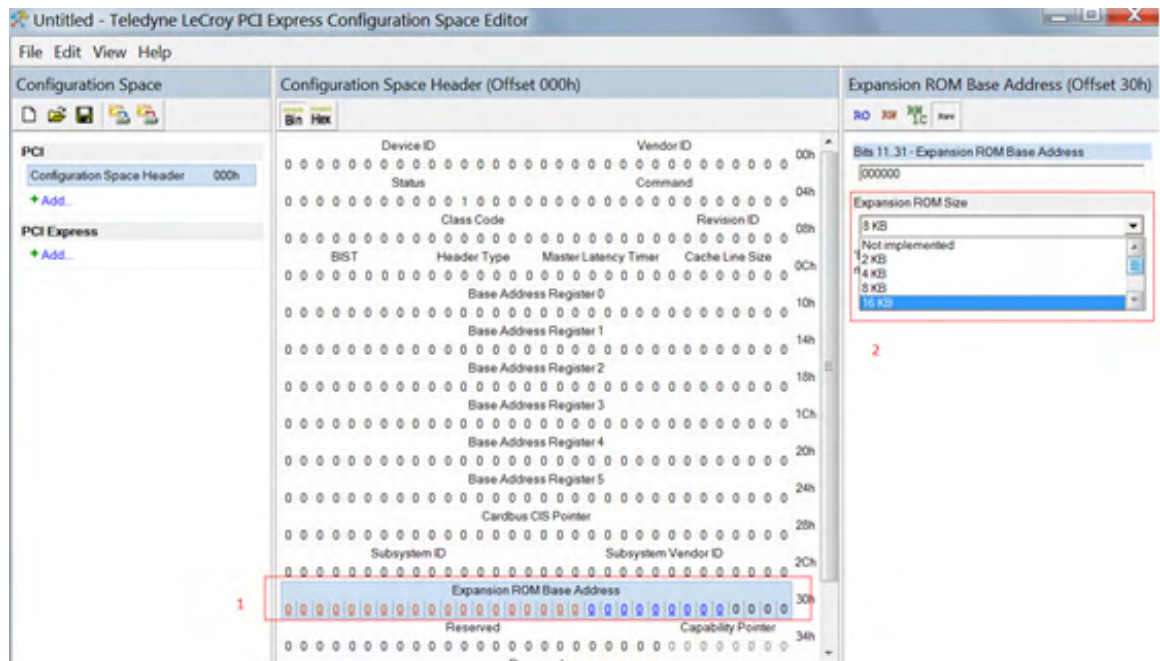

Figure 6.7: Setup.
3. Then select the size to be used (see Figure 6.7 on page 89).